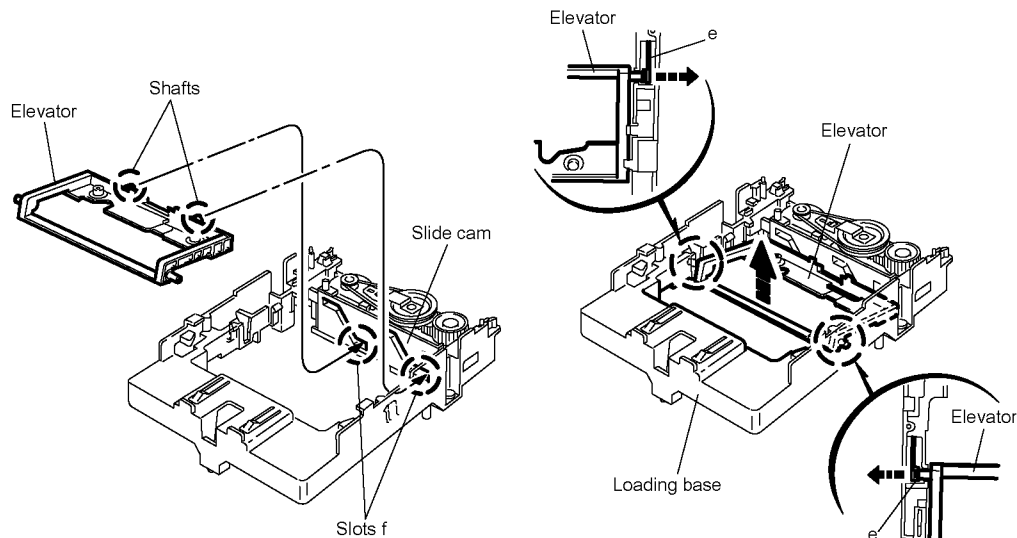

Fig.6
3.1.4 Removing the elevator (See Fig.6)